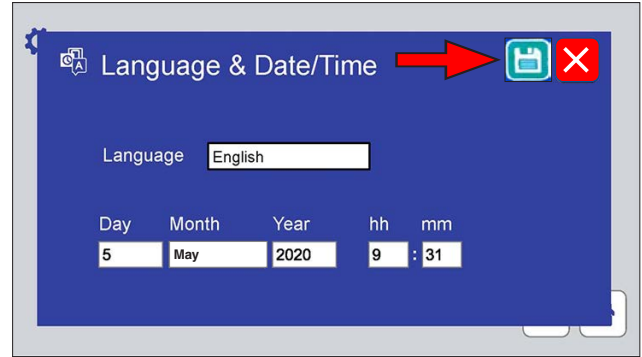

Figure 9.7p: Touch the save icon to save any changes to the Language & Date/Time. **NOTE:** The controller does not automatically adjust for Daylight Savings Time.
- o Date/Time (Figure 9.7m through Figure 9.7p).